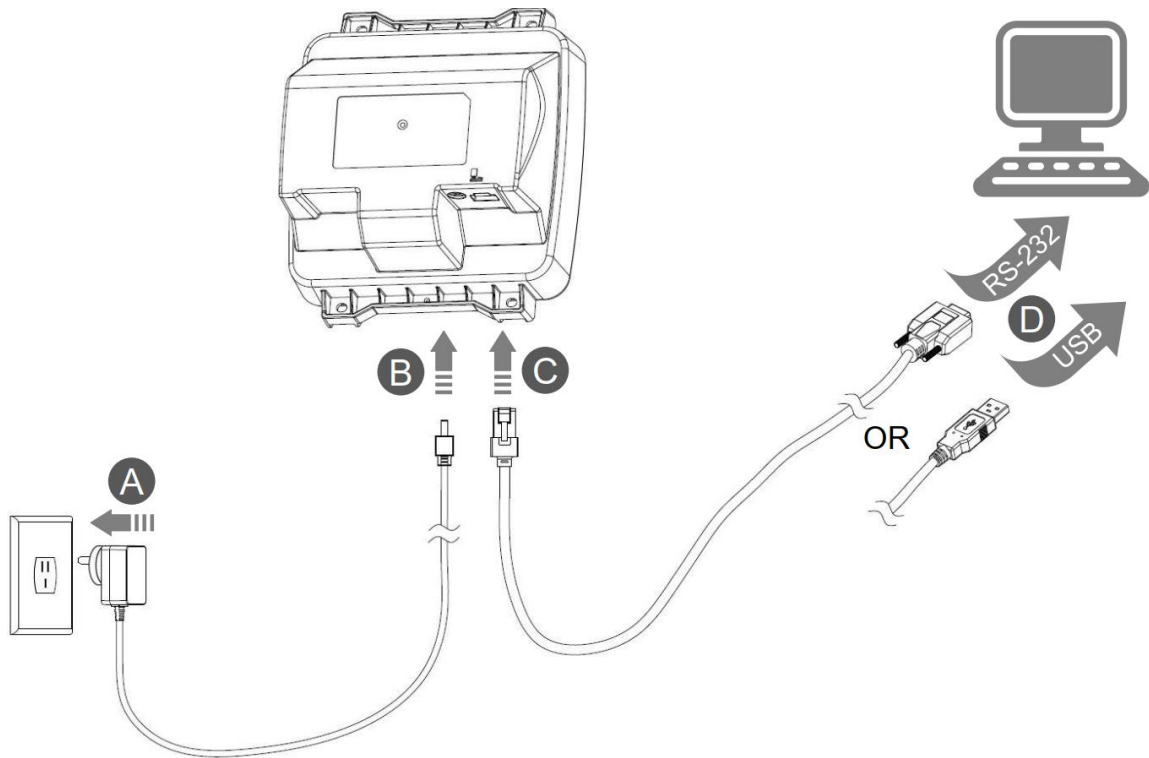

Figure 3-3
1. For the **FM80** with the adapter, connect the adapter first and power on the **FM80** according to step A and step B in Figure 3-3. Then connect the data cable (USB data cable or RS-232 data cable) according to step C and step D.